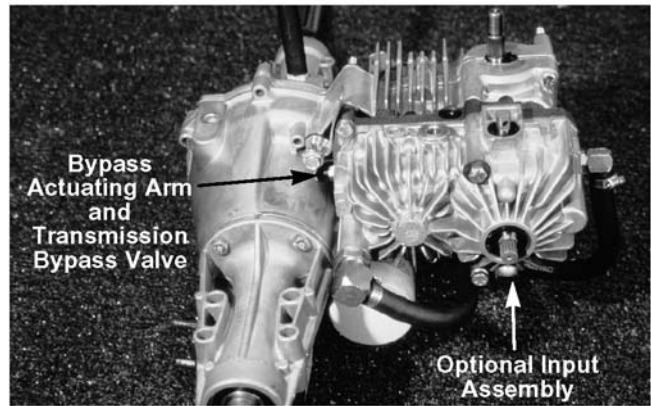

Figure 5-2.
- B. Optional input assembly. See Figure 5-2.